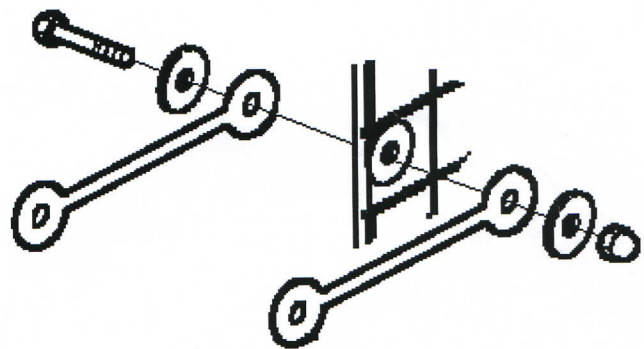

Fig.2 Fitting ties to mesh panel
2. Fix the ties using the Nut, bolt and washer provided, in the sequence shown in Fig.2, noting that the bolt also passes through the pre-fitted washer location in the mesh panel and is to be tightened until it bottoms in the nut and locks.